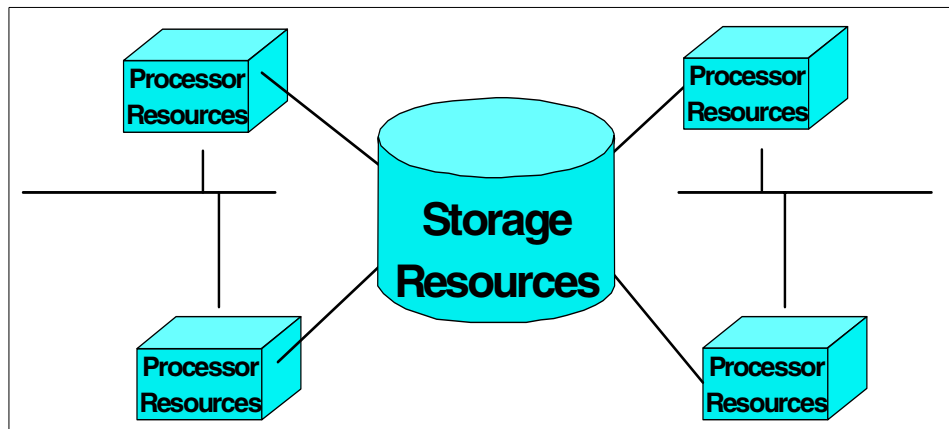

Figure 4. Storage Area Network
- **Storage Area Network** — The Storage Area Network (SAN) is a new concept of storage resource connection. In this manner, the storage resource is directly connected to multiple hosts without using network resources to avoid conflicts between I/O requested data and application data (see Figure 4, and refer to Chapter 3, “Storage Area Network Initiative” on page 19).